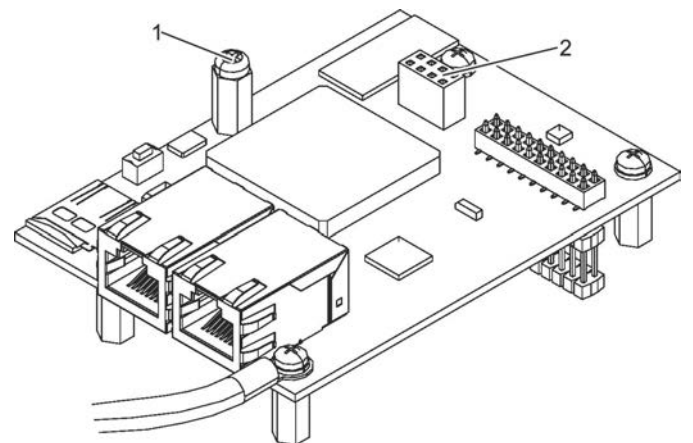
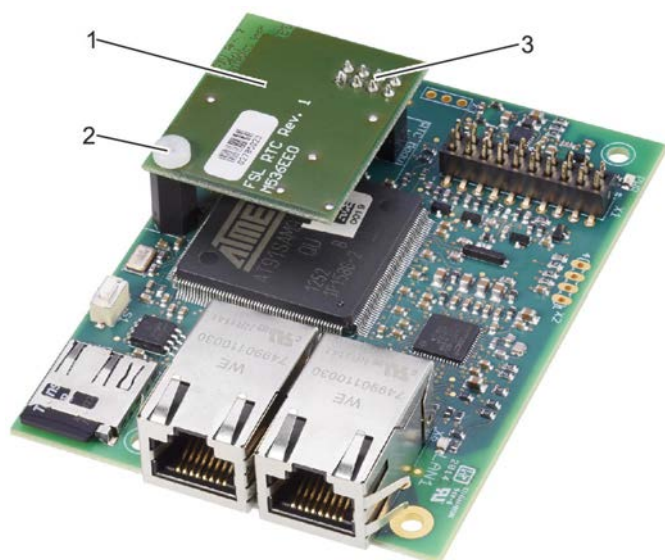

Fig. 53: Fixing screw
Fig. 54: Mounting the RTC module
6. ▶ Remove the fixing screw (Fig. 53/1).
7. ▶ Slot the RTC module (Fig. 54/1) with the pins (Fig. 54/3) onto the 8-pole slot (Fig. 53/2) of EM-IP.
8. ▶ Fix the RTC module with the fixing screw (Fig. 54/2) to EM-IP.